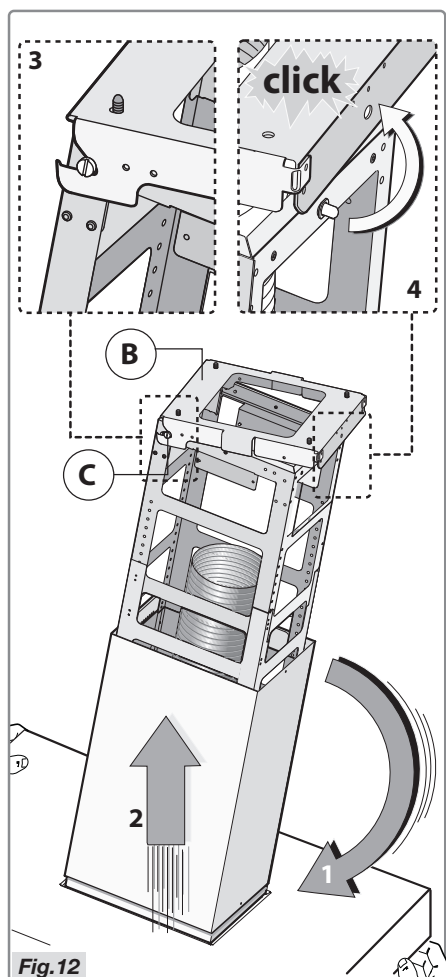

Fig.12
- Tilt the hood as indicated in Figure 12 – step 1.
- Use the two pivot pins **C** that are already present in the construction to hang the hood on the bracket **B**. Figure 12 - steps 2-3.
- Put the hood in position so that the safety pin clicks in the gap in the bracket **B**. Figure 12 – step 4.